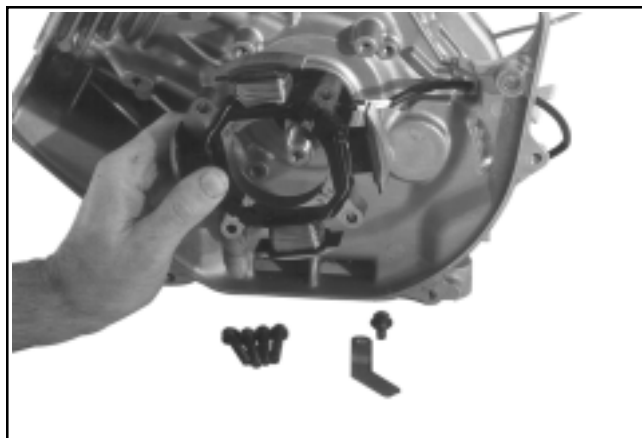

Figure 9-52. Removing Mounting Screws and Stator.
- Remove the four hex. flange shoulder screws securing the stator to the crankcase. Remove the stator and pull the wires through the opening in the casting. See Figure 9-52